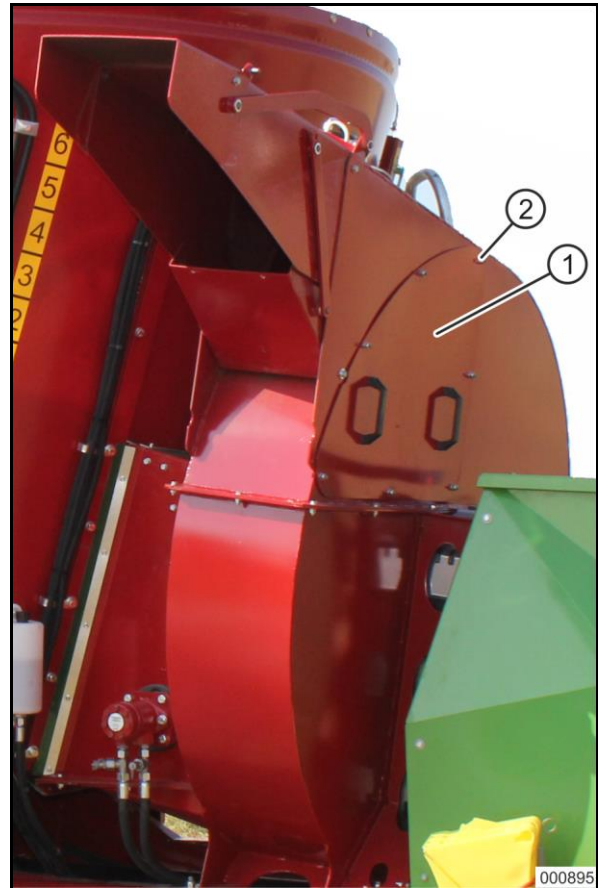

Fig. 75
Wait for the rotor to stop completely before removing the screws (Fig. 75/2) at the inspection door (Fig. 75/1).
5. Loosen the screws from the front inspection door (Fig. 75/2), such that the cover of the door can be removed and put aside.